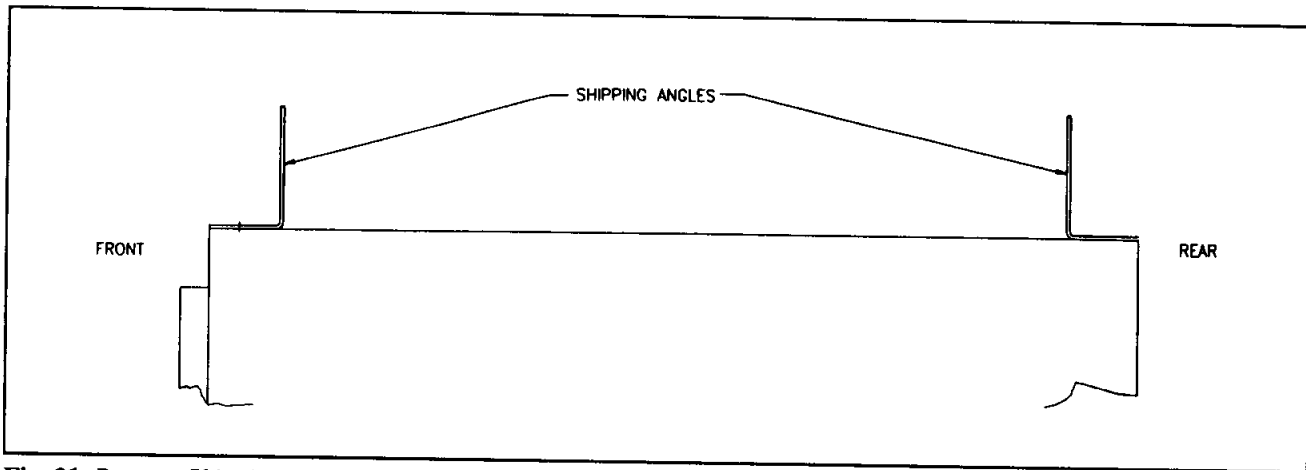

Fig. 31 *Remove Shipping Angles To Install Lifter*
The joint in the ground bus is made by means of a single splice plate bolted directly to the inside of the rear steel frame. See Fig. 31.
1. If the shipping angles have not already been removed, remove and discard them at this point (Figure 31).